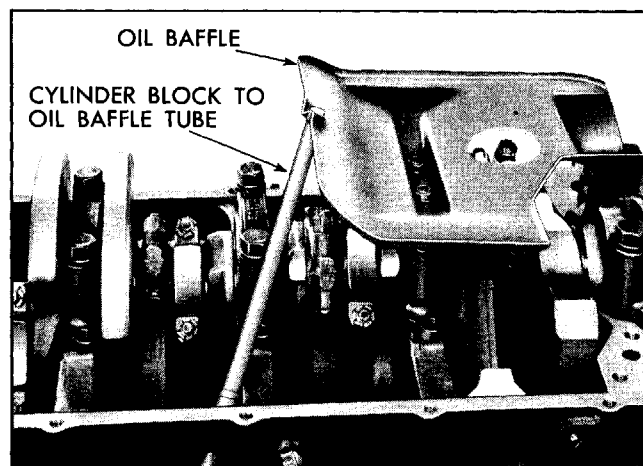

Fig. 6-74 Proper Assembly of Oil Baffle and Tube
16. Position cylinder-block-to-oil-baffle tube and engine oil baffle on engine, install attaching screws with lockwashers and tighten securely (Fig. 6-74).